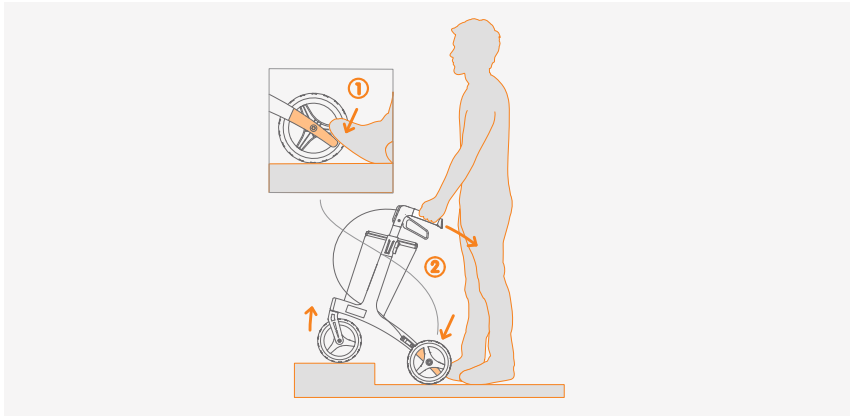

Figure 7: Going up kerbs/curbs using the curb assistant.
1. Approach the kerb/curb as close as possible (**Figure 7**).
2. Place one foot on the curb assistant (1).
3. Tilt the rollator backwards (2).